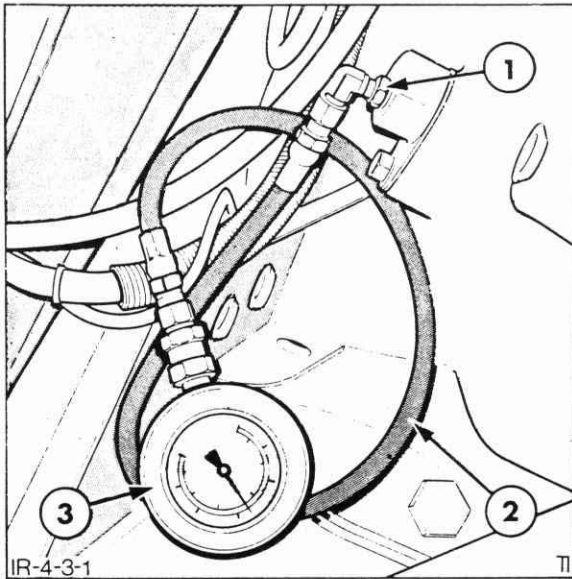

Figure 4-206
Attach a 300 lbf/in² gauge to the pressure test port connection, Figure 4-206.
1. If not previously installed, attach a 300 lbf/in² gauge to the pressure test port, Figure 4-206.